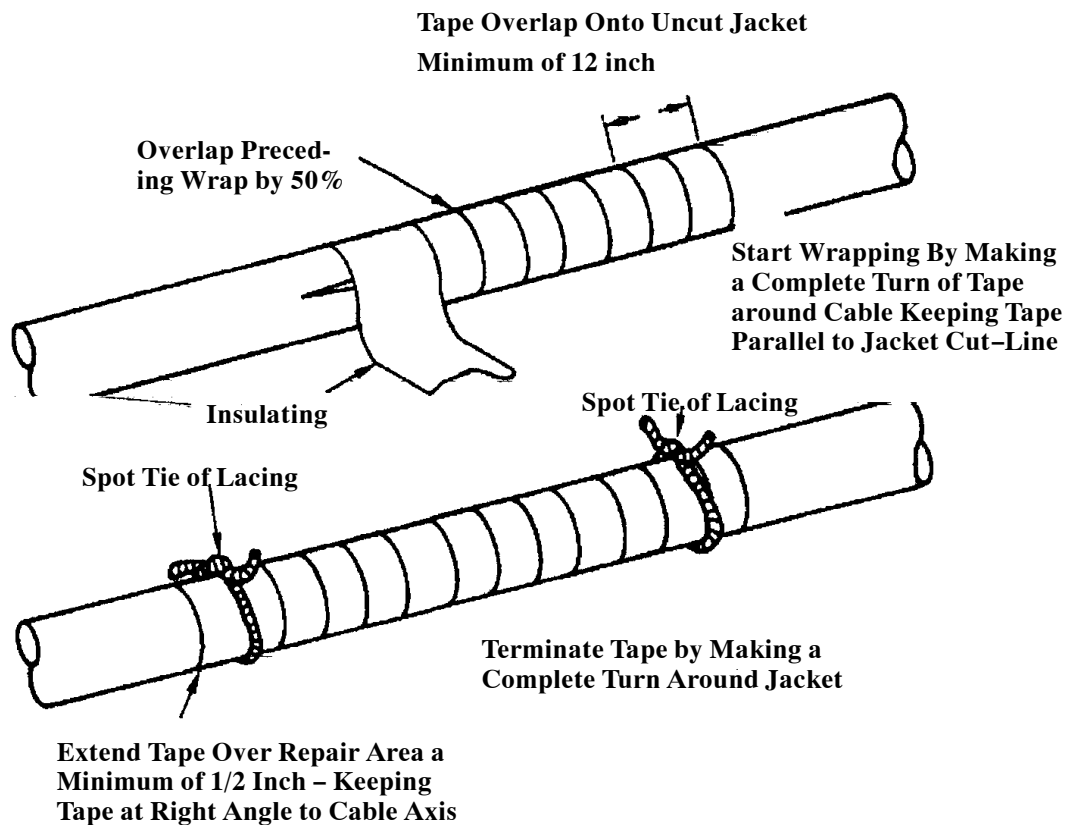

Figure 7. Taping Cable Jacket
(1) Spot tie both ends of insulating tape using lacing tape (Figure 7).